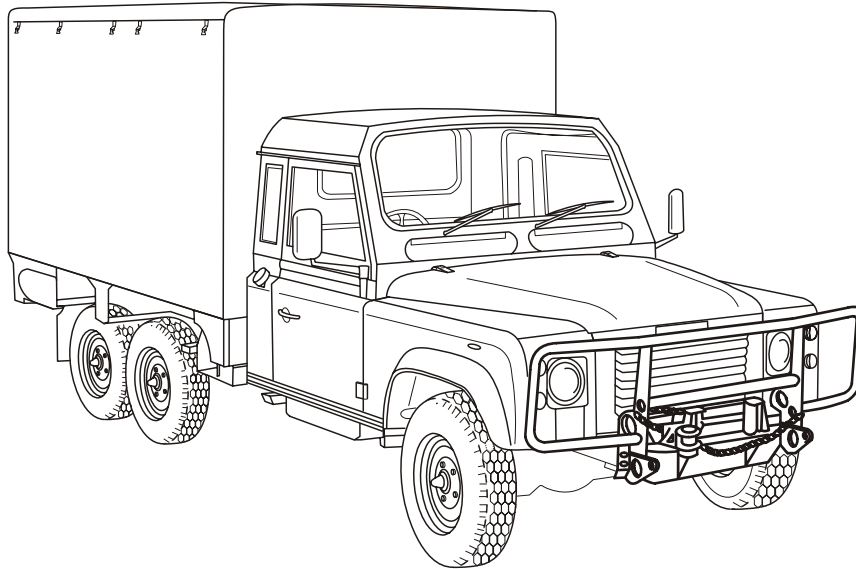

Figure 1 Truck, Air Defence, Land Rover 6 X 6, FFR, W/Winch, Target Sensor Vehicle (TSV)
1. This EMEI contains the technical description of the Truck, Air Defence, Land Rover 6 X 6, FFR, W/Winch, Target Sensor Vehicle (TSV) shown in Figure 1. All relevant weights, dimensions and performance figures are detailed in the Data Summary, EMEI Vehicle G 400. Except for the rear body assembly, the mechanical characteristics are the same as the Truck, Cargo, Light, Winch, MC2, therefore, for further information relating to the mechanical functions of this vehicle, refer to EMEI Vehicle G 202.